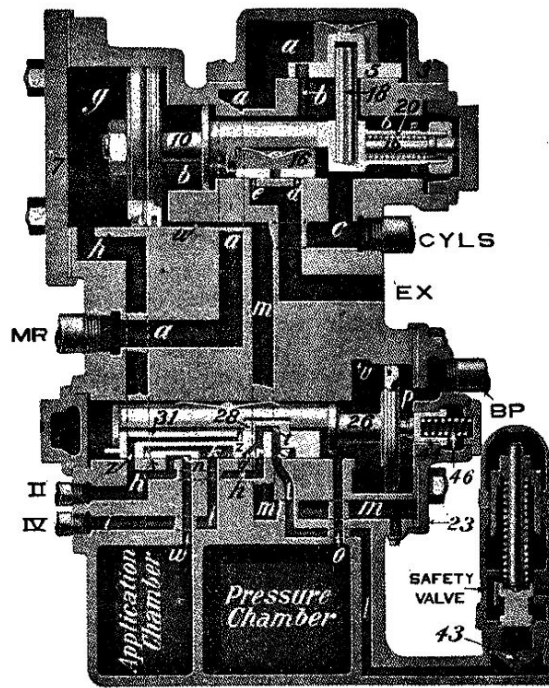
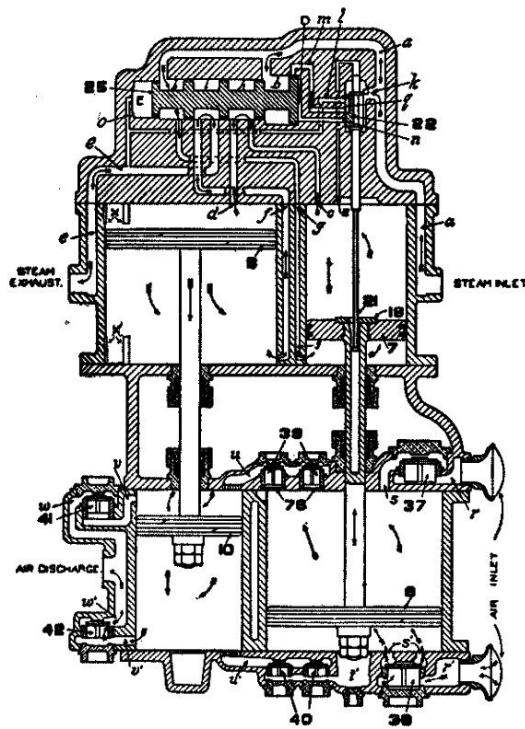

Fig. 9: Automatic Service.
Fig. 10: Service Lap.
A. When the brakes are fully charged, the brake pipe and pressure chamber pressures are equal, and when a gradual reduction of brake pipe pressure is made it will be felt in chamber "p" at the right of the equalizing piston 26, creating a difference in pressure on the two sides of the piston, causing it to move to the right. The first movement of the piston closes the feed groove "v", also moves the graduating valve 28, uncovering the service port "z" in the equalizing slide valve 31; this movement of the piston also causes the shoulder on the end of its stem to engage the equalizing slide valve, and the continued movement of the piston moves the valve to service position, in which port "z" connects with port "h" in the seat of the valve, as shown in Fig. 9. As the equalizing slide valve chamber is at all times connected to the pressure chamber, air can now flow from this chamber to both the application cylinder and chamber through ports "z" and "h", cavity "n" and port "w" until the pressure on the left or pressure chamber side of the equalizing piston 26 becomes slightly less than that in the brake pipe, when the piston and graduating valve will move to the left until the shoulder on the piston stem strikes the slide valve; this movement of the graduating valve closes the service port "z", thus closing the communication between the pressure chamber and application chamber and cylinder, also closing port "l" which leads to the safety valve. The distributing valve is now said to be in service lap position. (See Fig. 10.)
A. Pressure forming in this cylinder will force the piston to the right; the piston in moving will carry with it the exhaust valve 16, closing the exhaust ports "e" and "d", at the same time moving the application valve 5, opening the supply port "b", allowing main reservoir air from chamber "a" to flow through ports "b" and "C" to the connection marked "CYLS", and on to the different brake cylinders of the locomotive until the pressure in the brake cylinders and at the right of the application piston becomes slightly greater than that in chamber "g" when the application piston and valve will move back to lap position as shown in Figures 9 and 10.